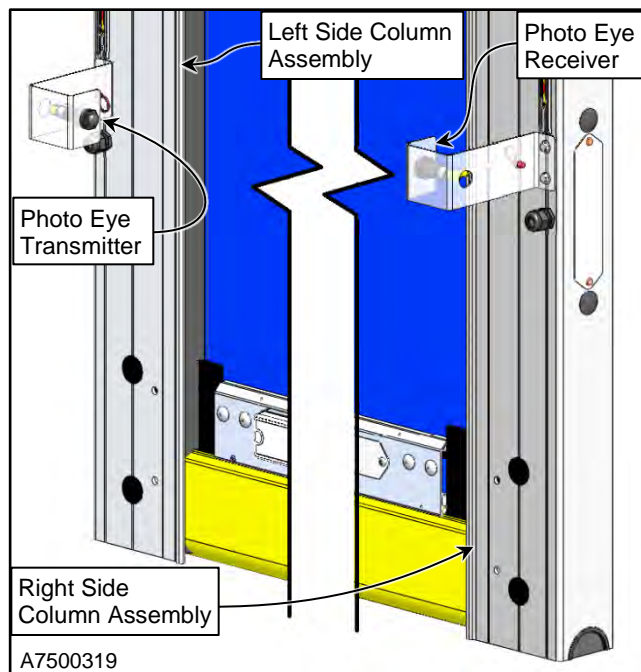

Figure 49
1. Check to see that the photo eyes on the front side of the door have been installed for a horizontal beam across the door opening. (See Figure 49)
*When the photo eyes are aligned, the yellow light of the receiver module will be illuminated. (See Figure 49)*
3. When the photo eyes are aligned, the yellow light of the receiver module will be illuminated. (See Figure 49)